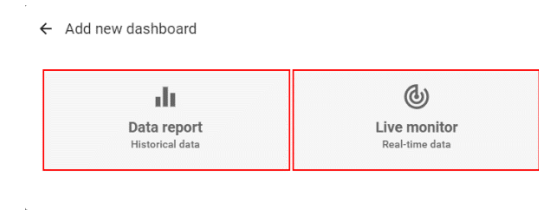

Figure 5.82 Select a dashboard type: report or live.
3. From the options, select data report (historical) or live monitor (Figure 5.82).